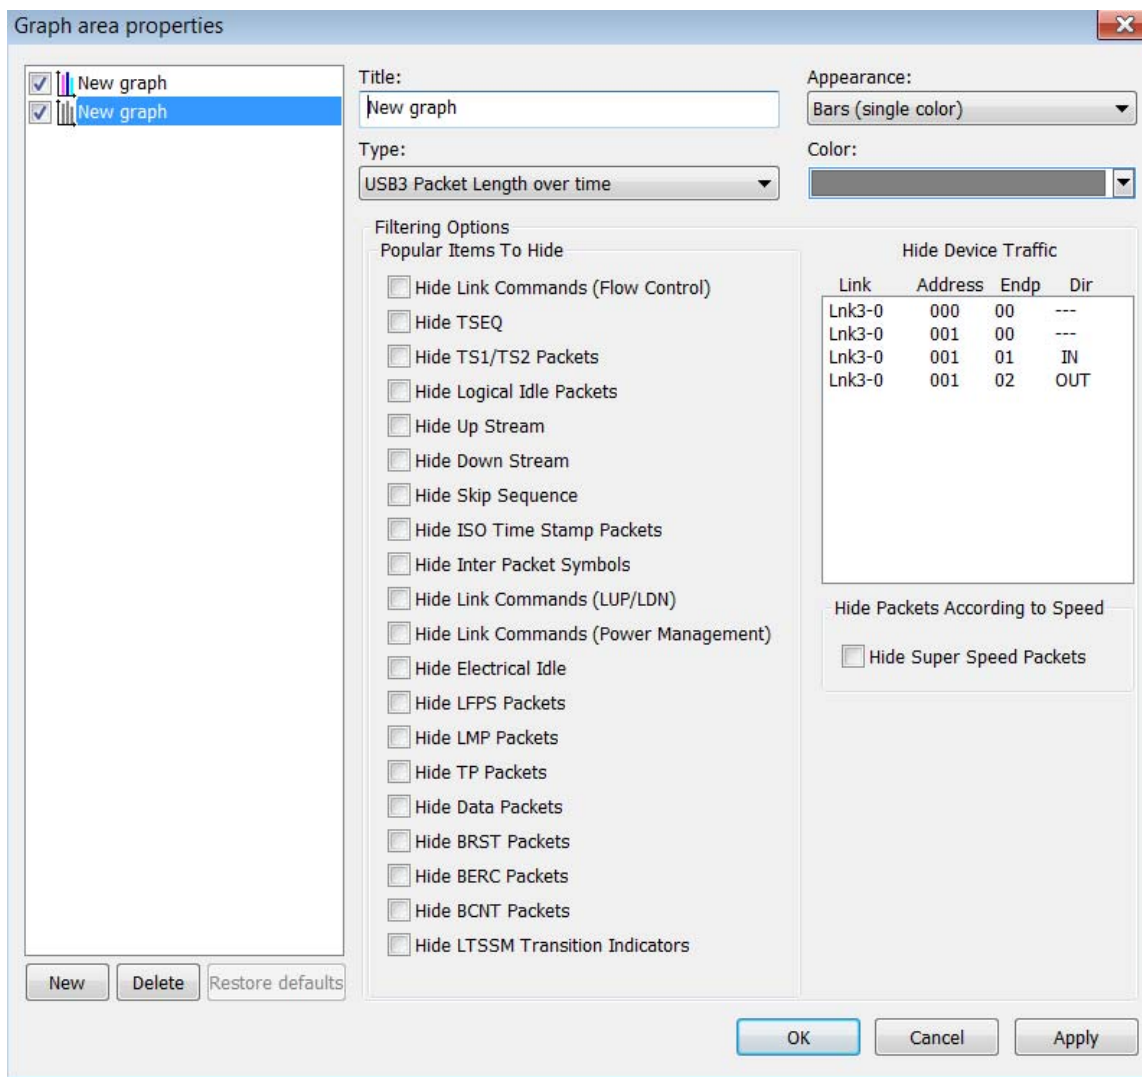

Figure 9.22: Graph Area Properties Dialog
1. In the Graph Area properties dialog box (see Figure 9.22 on page 230), select the options to display in the graph display, then click **OK**.
2. In the Graph Area properties dialog box (see Figure 9.22 on page 230), select the options to display in the graph.